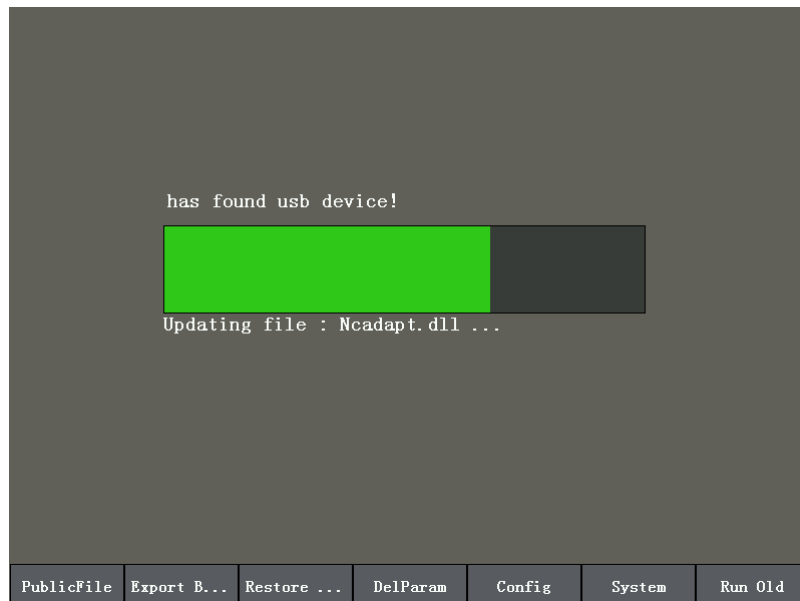

Fig. 4-2 Updating the software
- 5) Press F6 to start updating the software. The interface during updating is as shown in Fig. 4-2.
- 4) Press F6 to update the software. Updating process is as shown in Fig. 4-2.
- 5) Press F6 to update the software. Updating process is as shown in Fig. 4-2.